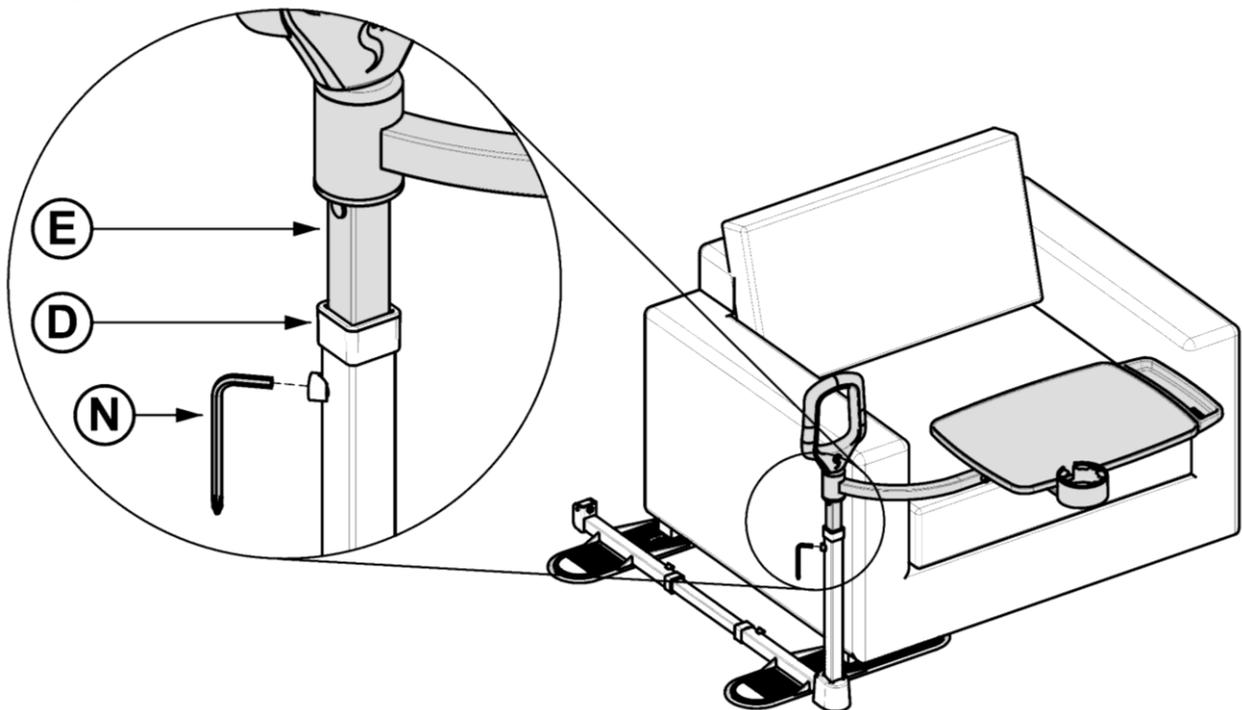

FIGURE 14
14. Adjust tray to desired height, ensuring Spring Button is engaged with a hole, and secure SET SCREW in Upright **D** with Tool **N** as shown in *FIGURE 14*.